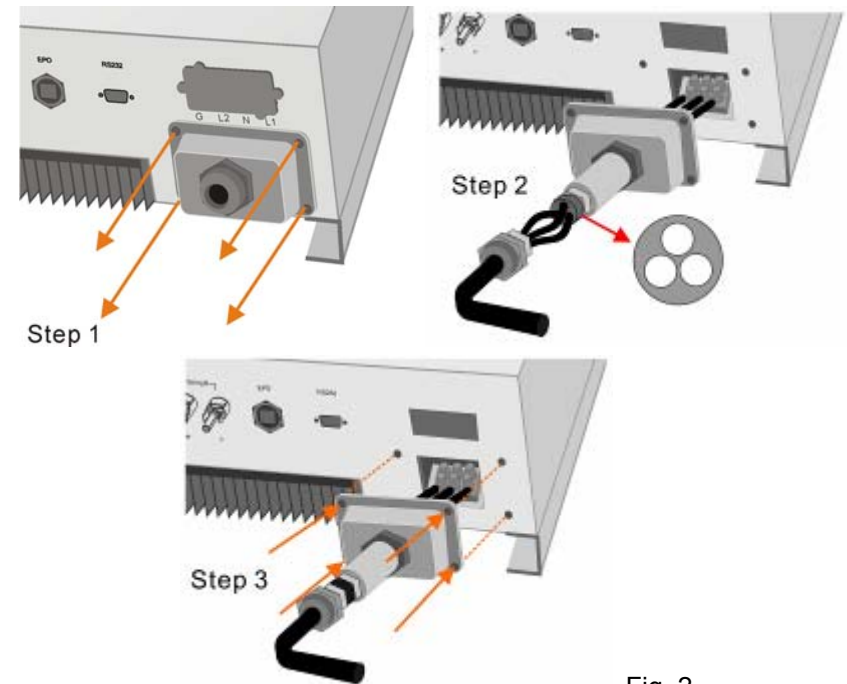

Fig. 2
Step 3. Remove the screws that secure the case of the PV Inverter and carefully remove the cover. Remove the connection from the cover as shown in Fig. 2.